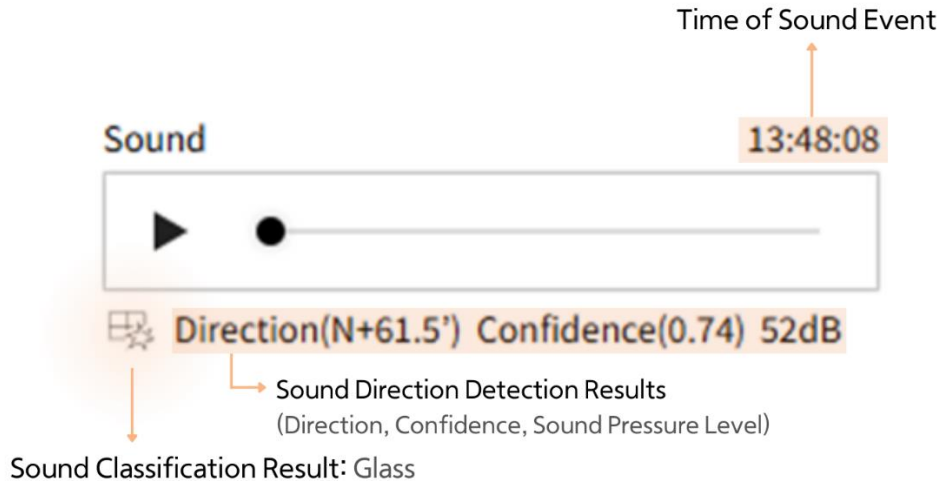

Figure 7: Example of Sound Direction Detection Results
As shown in Figure 7, the sound classification result is displayed with an intuitive icon at the bottom, along with the sound direction detection result. 'Direction (N+301.8°)' means the sound source is located 301.8° clockwise from North (N).